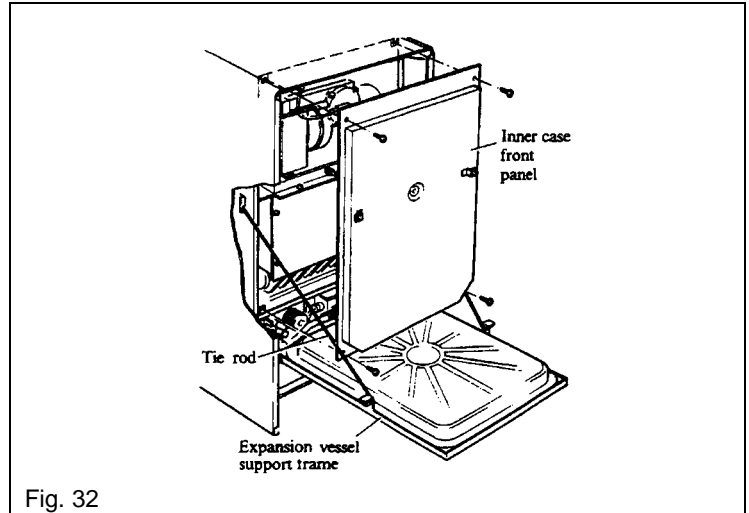

Fig. 32
Refer to Figs. 32, 33 and 34.
3. Remove the two tie rods from the retaining clips on the front of the expansion vessel frame and remove the split pins from the ends of the rods. Remove the two screws securing the expansion vessel support frame to the inner case front panel. Hook the plain ends of the tie rods into the brackets on the sides of the boiler. Carefully lower the expansion vessel and frame (hinged at the bottom). Locate the other ends of the tie rods in the brackets on the expansion vessel frame, then pass the split pins through the ends of the rods to secure them in place. See Fig. 32.
4. Remove the four screws (two at the top and two at the bottom) securing the inner case front panel and lift off the panel. See Fig. 32.
Refer to Figs. 32 and 35.
2. Sections 9.3 to 9.12 involve replacement of components within the room-sealed section of the boiler. All necessitate the removal of the inner case front panel, see Fig. 32, as follows:
- b. Remove the two tie rods from the retaining clips on the front of the expansion vessel frame and remove the split pins from the ends of the rods. Remove the two screws securing the expansion vessel support frame to the inner case front panel. Hook the plain ends of the tie rods into the brackets on the sides of the boiler. Carefully lower the expansion vessel and frame (hinged at the bottom). Locate the other ends of the tie rods in the brackets on the expansion vessel frame, then pass the split pins through the ends of the rods to secure them in place. See Fig. 32.
- c. Remove the four screws (two at the top and two at the bottom) securing the inner case front panel and lift off the panel. See Fig. 32.